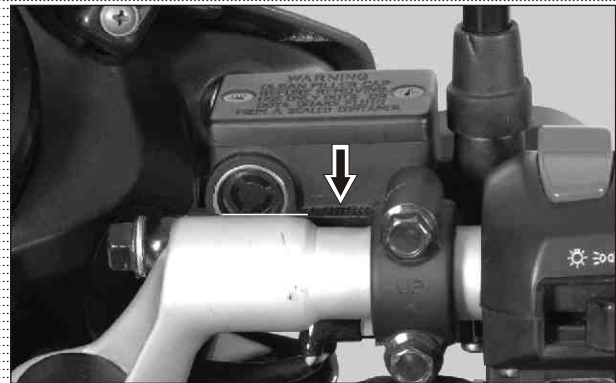

Fig. 2.10
- Check front brake fluid level, if found below the lower level top up with fresh brake fluid. (Fig. 2.10) (Refer page no 2-23 for further details.)